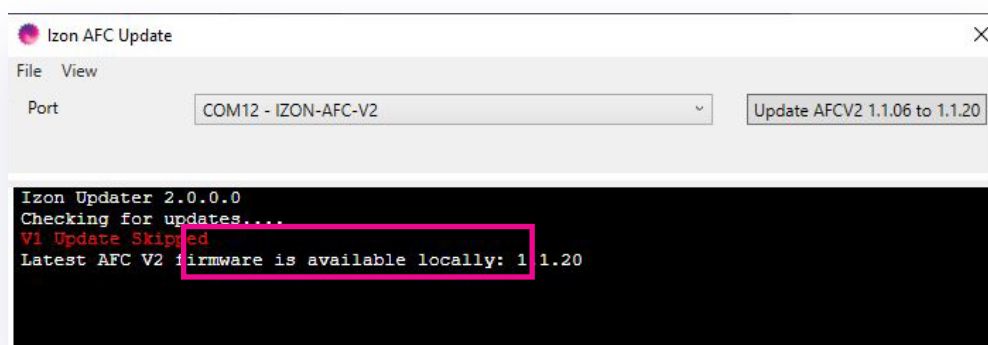

Figure 22: The Izon AFC Updater with the AFC correctly selected in the "Port" dropdown box.
6. Ensure that Automatic Fraction Collector is shown in the Port box, as shown in Figure 22.